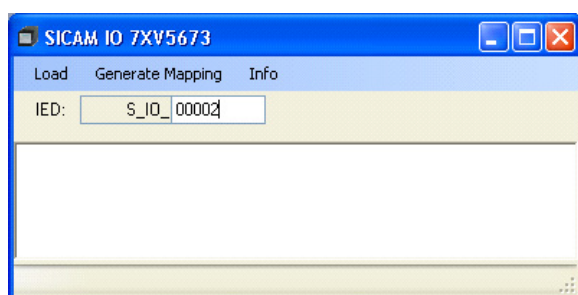

Figure 6-42 SICAM I/O Mapping Tool
- ✧ Enter the same IED name as in DIGSI 4 in the SICAM I/O Mapping Tool (e.g. IED name S_IO_00002, see Figure 6-42).